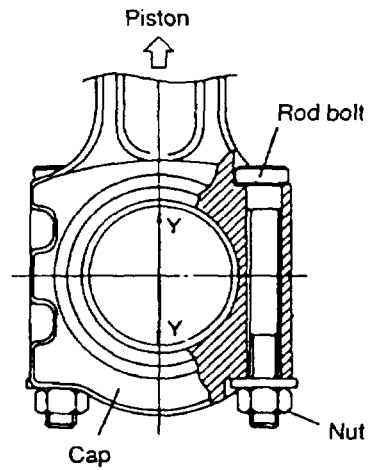

Figure 6-52 Check of crank pin metal
- 1) Check the contact surface of the crank pin metals for separation, melting seizure, etc. (see Figure 6-52).